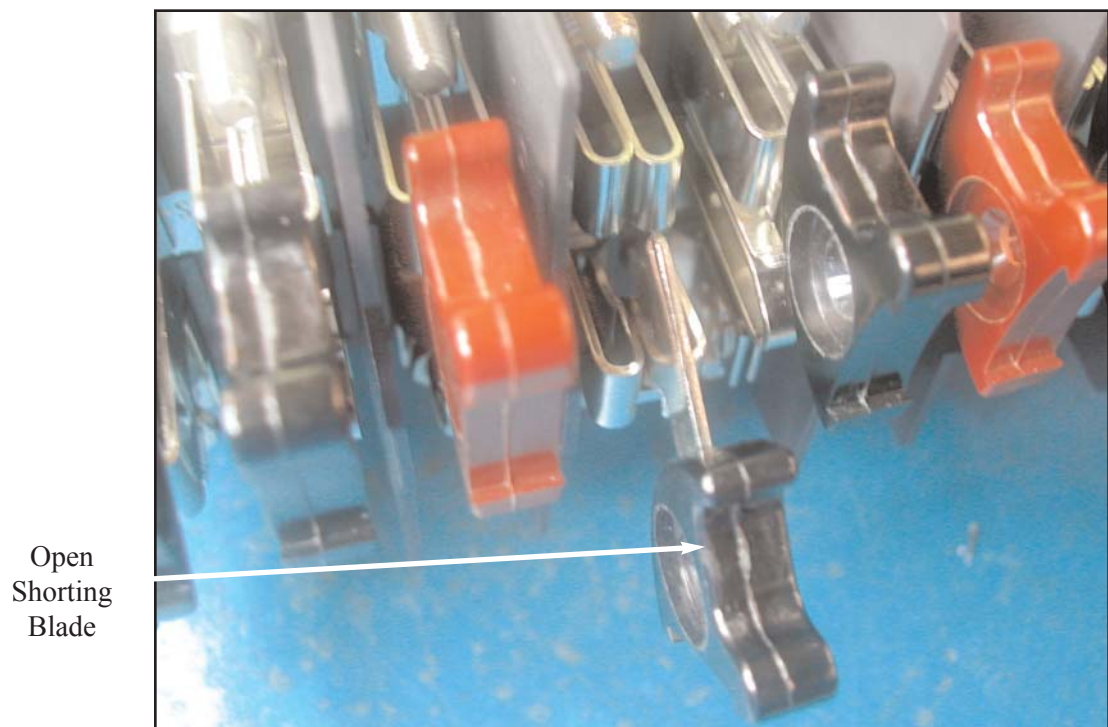

Fig. 3.13: Open Shorting Blade
4. Short the Current Phase by pulling out the Shorting Blade Lever as far as it will go (Fig. 3.13).